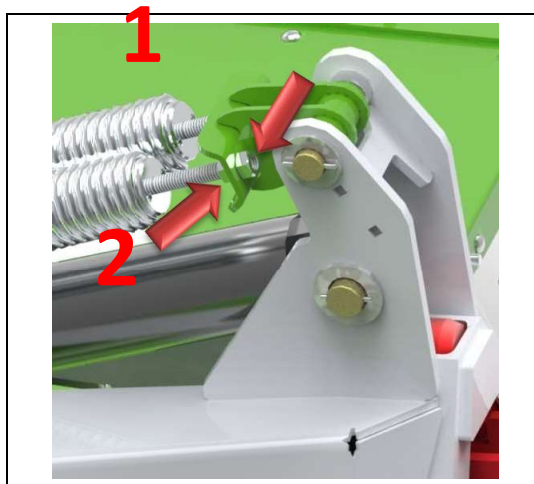

Fig.9 Adjustment of the tension alleviation springs
The mower features the ground pressure adjustment. It is done with tension alleviation springs, (1) in Fig.9, of the suspension. Taking into account a type of ground on which you operate the mower, use the screw (1) to set the tension and secure it against unscrewing with the jam nut (2).